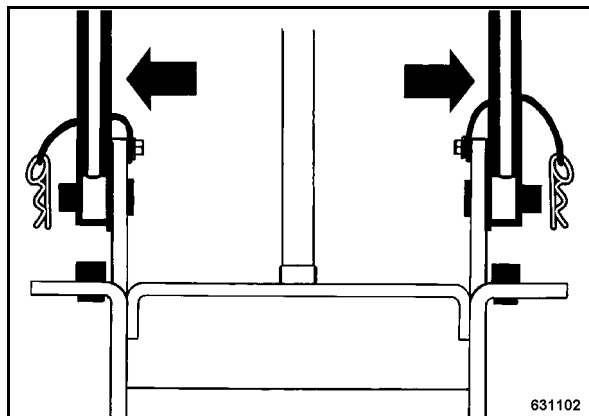

Fig. 10
- Force the steering bow (Fig. 10) apart and plug it onto the bracket.